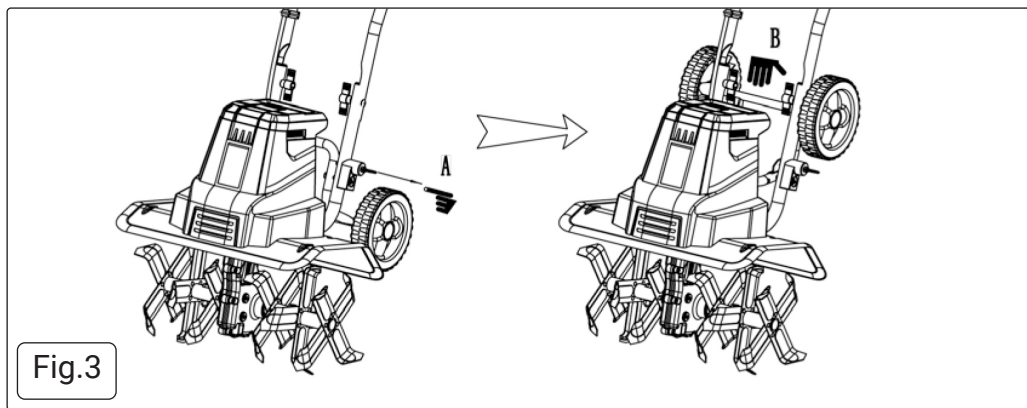

Fig.3
- Make sure the wheel frame is raised before you start the tiller. To raise the frame, pull out the lock pin (Step A); rotate the wheel frame upward, release the lock pin (Step B). The wheel frame will be locked in place by the lock button. (See Fig. 3) on the next page.
- To start the tiller/cultivator press and hold the safety lock button (A) fig.3 on the safety switch while pulling the trigger lever (B) up and against the handle bar. The motor will start and the tynes will begin to rotate. To stop the tiller/cultivator simply release the lever.